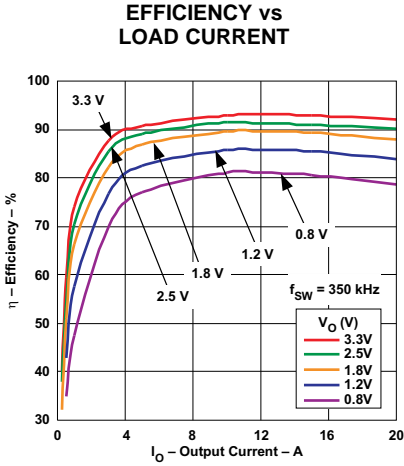
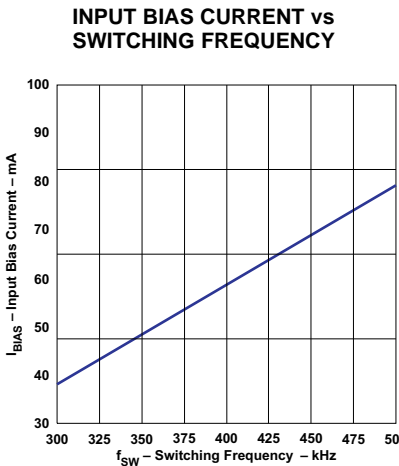

Figure 1.
Figure 5.
- (1) The electrical characteristic data has been developed from actual products tested at 25°C. This data is considered typical for the converter. Applies to Figure 1 thru Figure 5.